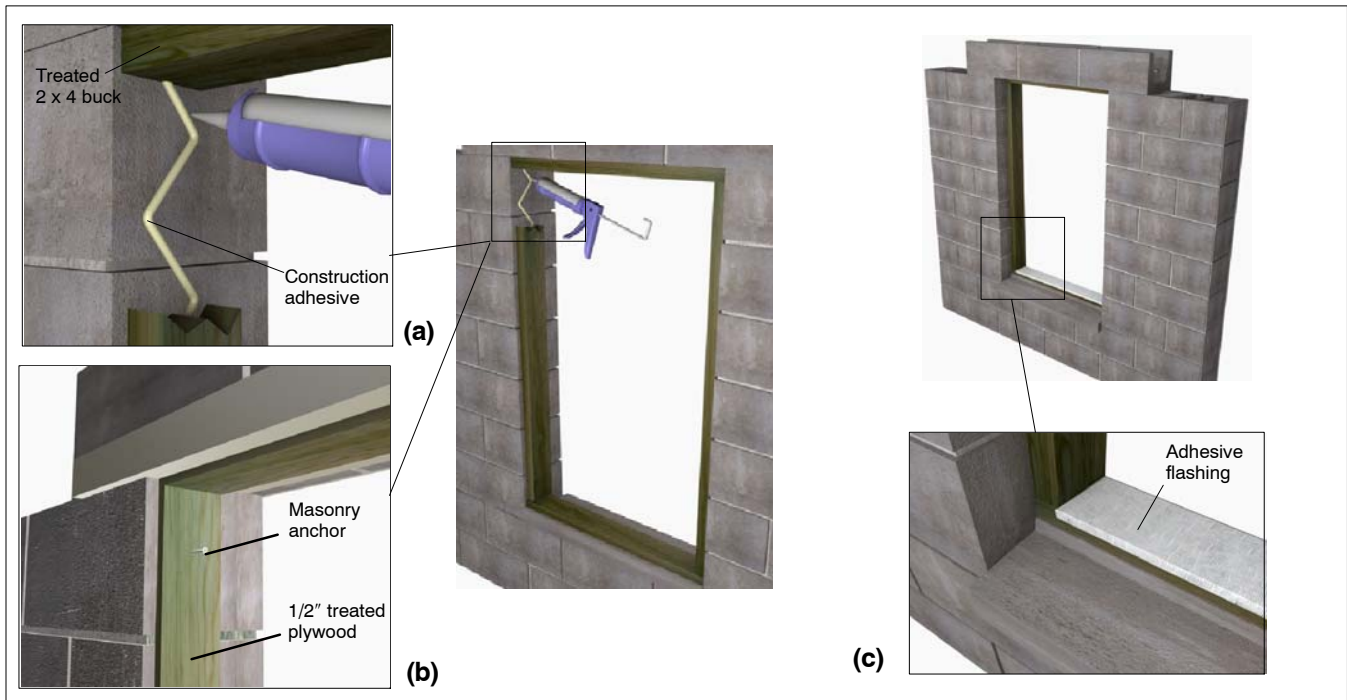

Figure 1: Preparing openings for concrete block openings.
4. The window frame must not come in contact with treated lumber. If you will not be using rigid panning or shimming at the sill, apply a barrier such as a self-sealing adhesive flashing to the rough opening sill. See figure 1 c.